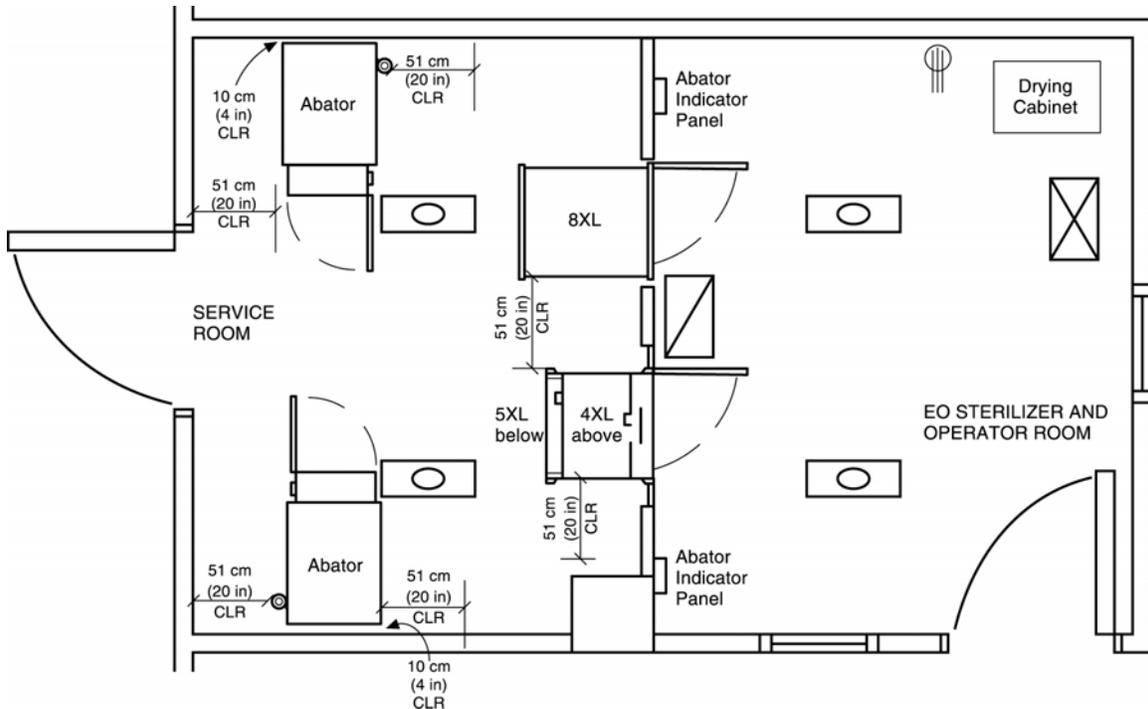

Figure 5. Equipment Location Worksheet (Example).
- ❑ The location allows 51 cm (20 inches) of clearance space at the top and sides of the sterilizer for maintenance and service (see Figure 5).
Based on the sketch of the site layout, complete an Equipment Location Worksheet to show each piece of equipment in the work area (see Figure 5). A blank worksheet is provided at the back of this manual.